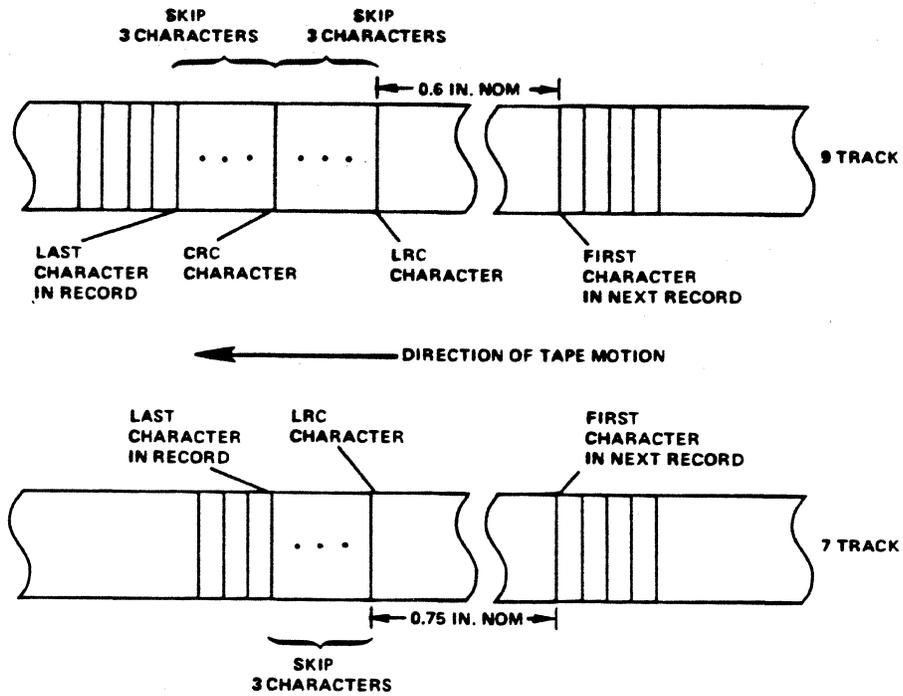

Figure 4-50. End-of-Record Mark Formats for 7- and 9-Track NRZI Tapes
The data is formatted and recorded on the tape in blocks referred to as records. The exact configuration of a record depends on whether the tape is in 7- or 9-track format. On 9-track tape, each record consists of the data, a cyclic redundancy check (CRC) character, and a longitudinal redundancy (LRC) character. The CRC character must occur four character times after the final data character, and the LRC character must occur four character times after the CRC. A minimum spacing of 0.5 inch is required between records. The end of a record is shown in figure 4-50.
On 7-track tape, each record consists of data, followed by an LRC character only, as shown in figure 4-50. Minimum spacing between data records is 0.6 inch.
The data is formatted on the tape in records with each record consisting of a preamble, the data, and a postamble (see figure 4-50). The preamble consists of 40 characters of logical 0's and one character of logical 1's. The postamble is a mirror image of the preamble, and consists of one character of logical 1's and 40 characters of logical 0's. A minimum spacing of 0.5 inch is required between records. PE data is always recorded on 9-track tape.
- e. After the last character in the record is written, the formatter will gate the proper CRC, LRC, as they are shown in figures 4-50, 4-52 and 4-53.